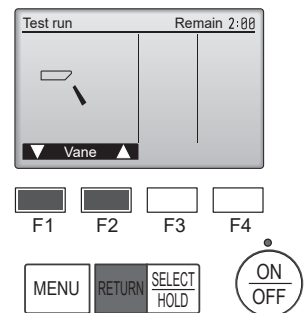

Fig. 7-6
- (1) Check the auto vane with the [F1] [F2] buttons. (Fig. 7-6)
- (2) Press the [RETURN] button to return to "Test run operation".
- (3) Press the [ON/OFF] button.